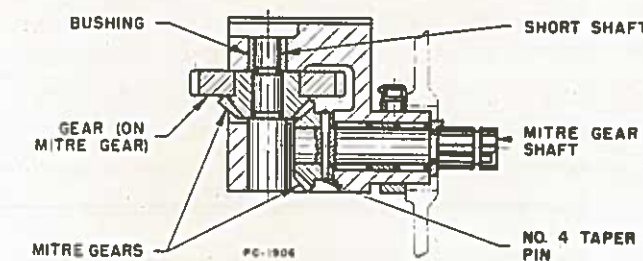

FIGURE 9B
6. If necessary to further dismantle Mitre Gear Bearing, drive Short Shaft out side opposite Bushing. (Figure 9B) Mitre Gear is 0.001" to 0.0015" tight on shaft. If necessary to remove Gear (On Mitre Gear), from Mitre Gear, it is 0.000" to 0.0005" tight.